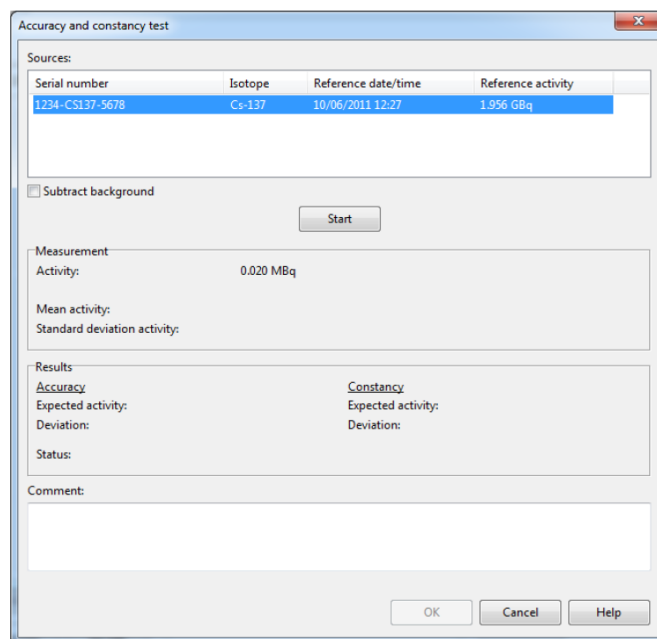

Figure 12.: Interface of the accuracy and constancy test.
Step 1: Select “Accuracy and constancy test” to perform the test. A new window will open, see figure 12.